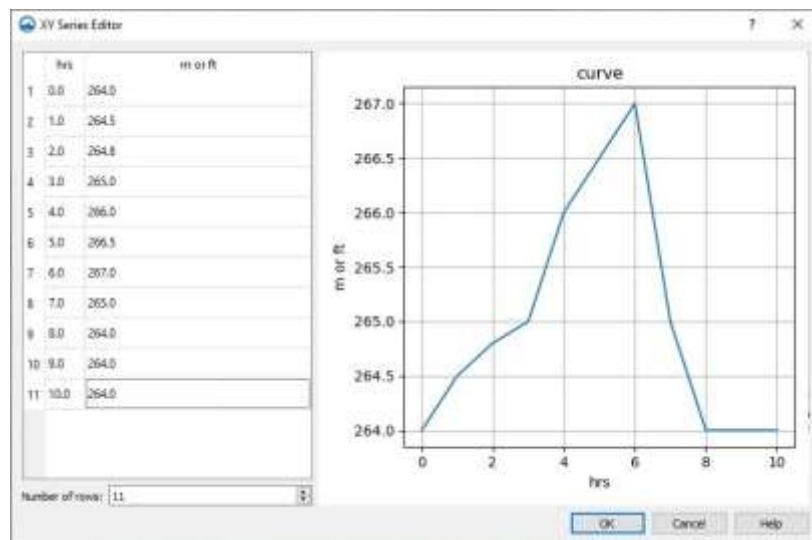

Figure 6 Variable WSE plot in the XY Series Editor dialog
12. Copy the values from the *Elevation (m)* column in the “VariableWSE.xls” file to the *m or ft* column in the *XY Series Editor* dialog. The plot should appear as in Figure 6.